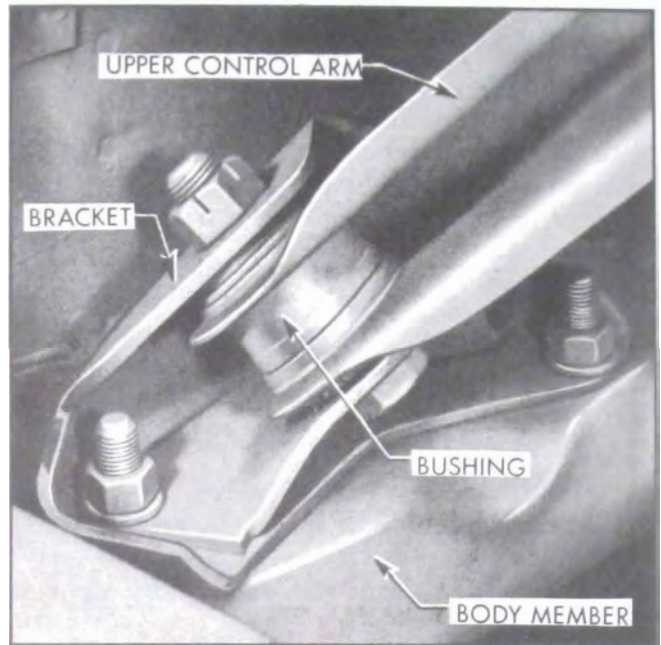

Figure 7-27—Rear Upper Control Arm
3. Disconnect control arm at front bracket by removing arm bolt and lock nut and remove upper control arm. See Figure 7-27.